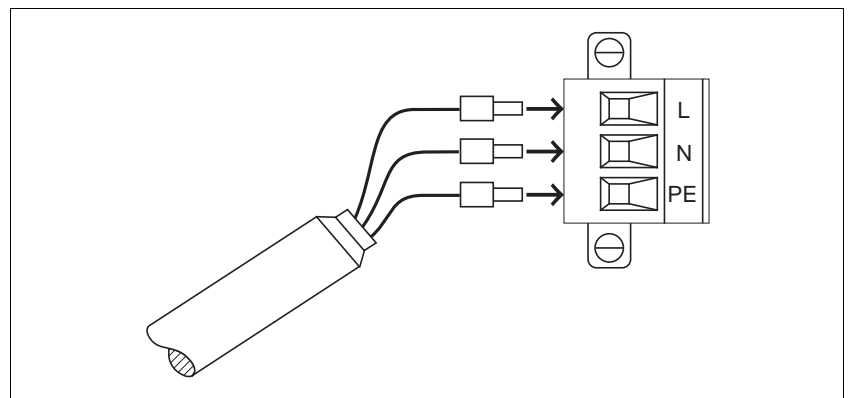

Fig. 2-5 Mains connector – device end
3. Fasten three litz wires (fig. 2-5) with screws: